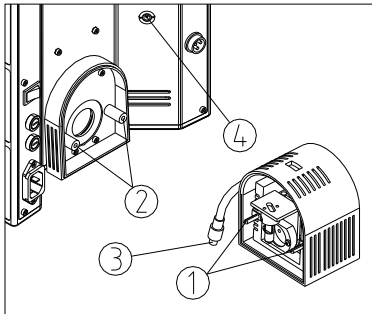

Fig. 7
- (1) Match the guide pins ① of light source group with the guide receptacles ② of base, and push the light source group into the base thoroughly. (See Fig. 7)
- (2) Insert the plug ③ of light source group into the socket ④ of the microscope body.